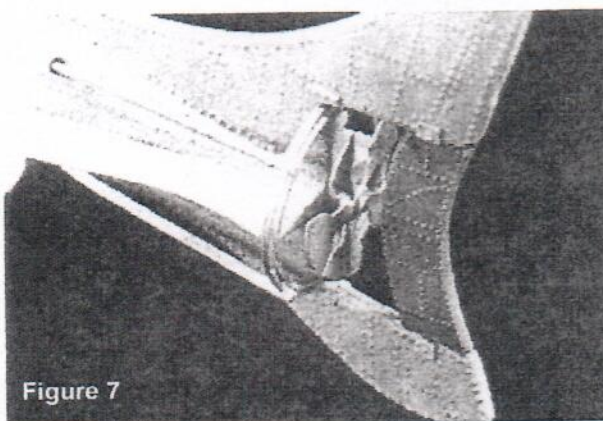
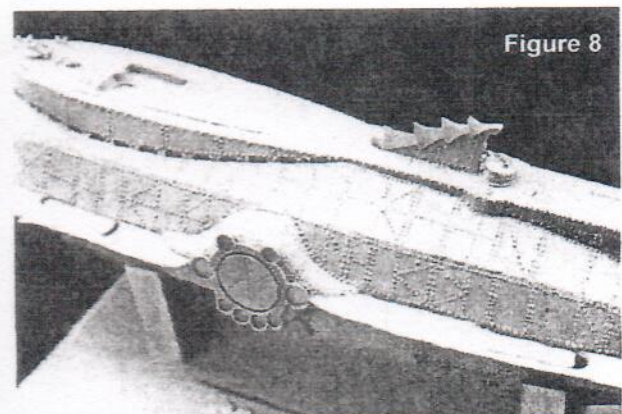

Figure 7
Figure 8
6. Figure 7 shows the installation of the rear prop, and rudder. As you can imagine the former must be installed first, with the latter needing probable trimming, or adjusting, to ensure a proper fit. Figure 8 shows how the iris, dorsal fin, and white metal hatches are all attached.